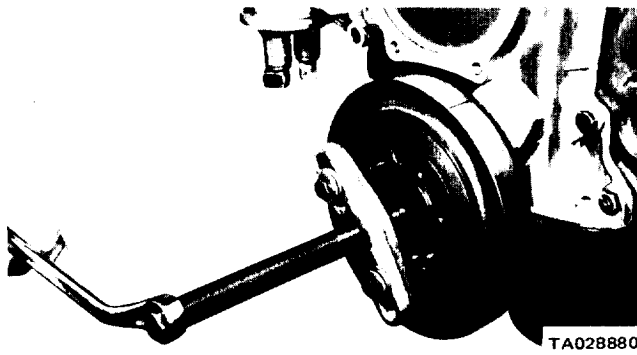

Figure 3-7. Removing Vibration Damper Assembly.
- (1) Disconnect the negative (ground) cable at the battery.
- (2) Drain the cooling system and remove the radiator, fan belt, and water pump assembly.
- (3) Remove the pulley from the vibration damper. Remove the bolt and washer securing the vibration damper on the crankshaft.
- (4) Install a puller and remove the vibration damper from the end of the crankshaft (figure 3-7).